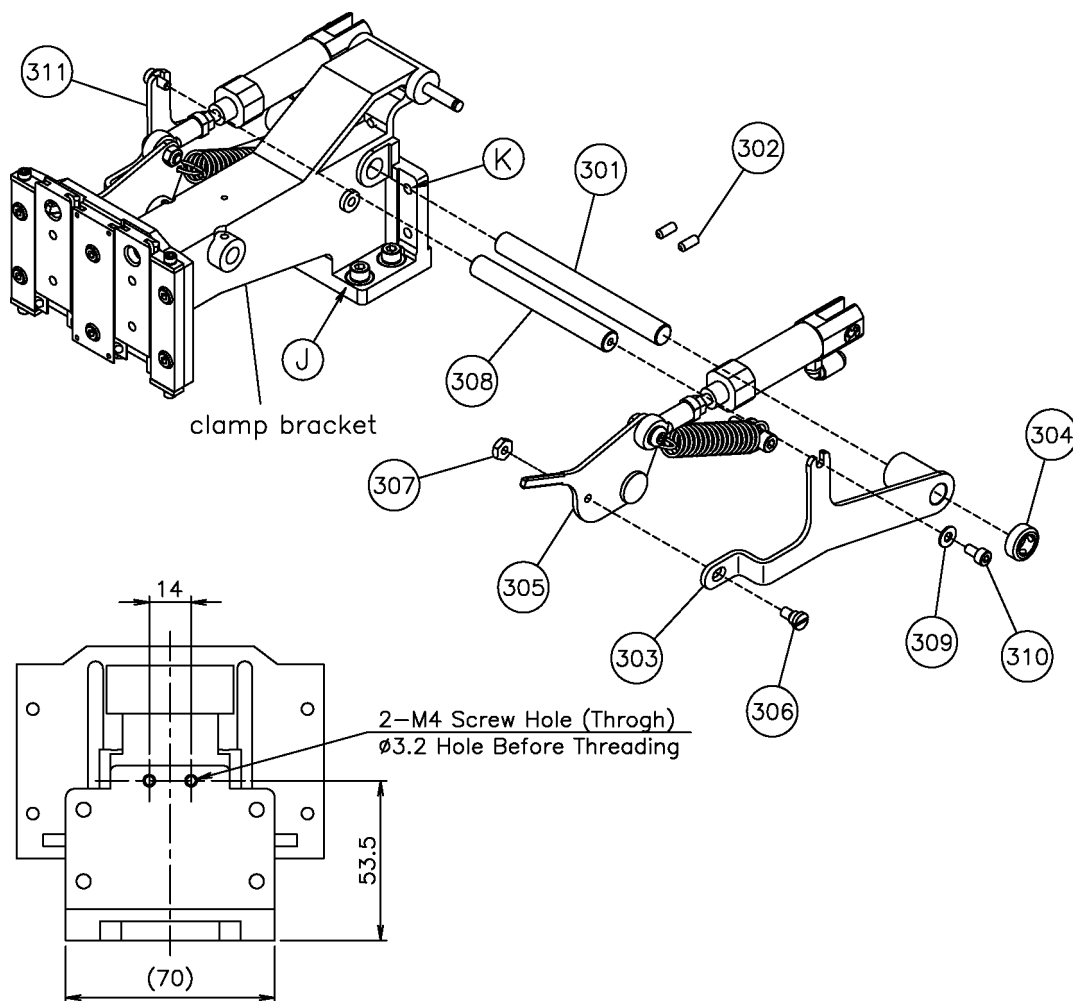

Fig.5 Clamp mechanism assembly figure
- 1) Confirm whether there is the screw hole in the rear of the clamp bracket which removed in step 1-2.4). When there is not the screw hole, please process the screw hole at the position of figure 5.
- 2) The shaft (301) is fixed to the even position of clamp bracket by the two screws (302).
- 3) Pass the right lever (303) through the shaft (301), and fixes by the collar (304).
- 4) Fix the right lever (303) and the cylinder lever (305) by the screw (306) and the nut (307).
- 6) Put the shaft (308) between the right lever (303) and the left lever (311), and fix it by the washer (309) and the bolt (310).